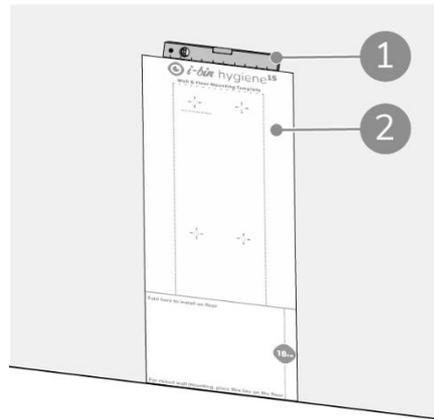

Figure 12
Place the template (pos. 2, Figure 12) with the bottom part on the floor. Check with a water level (pos. 1, Figure 12) if the template is exactly horizontal.